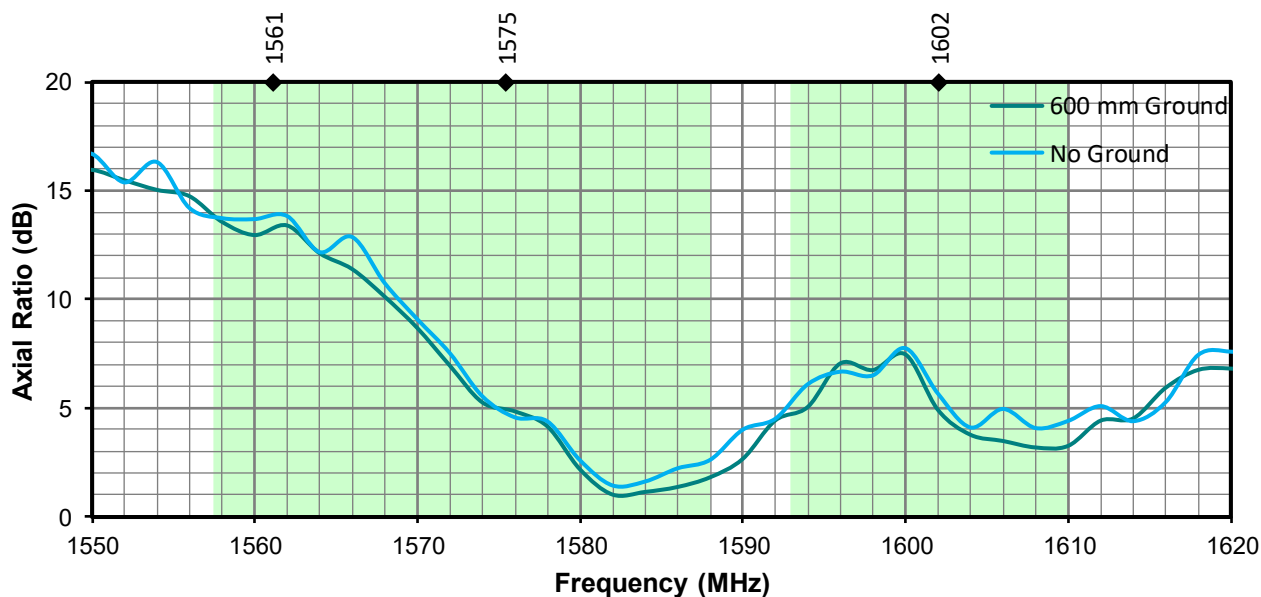

Figure 23. Axial Ratio, GNSS
Axial Ratio (**Figure 23**) is the ratio of orthogonal components of an E-field. A circularly polarized field is made up of two orthogonal E-field components of equal amplitude (and 90 degrees out of phase). Axial ratio provides a measure of the quality of antenna circular polarization, the lower the value (in dB), the better the circular polarization. The ideal value of the axial ratio for circularly polarized fields is **0 dB (1)**. In practice, no antenna is perfectly circular in polarization, less than **3 dB** might be an adequate value.